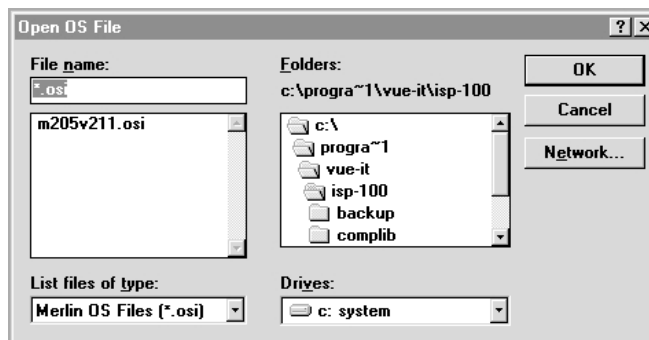

Figure 5-3 Open OS file dialog.
5. Download the OS software file you need via the application when prompted. See Figure 5-3 for more information. The default location for OS files is “**c:\program files\vue-it\isp-100**”.